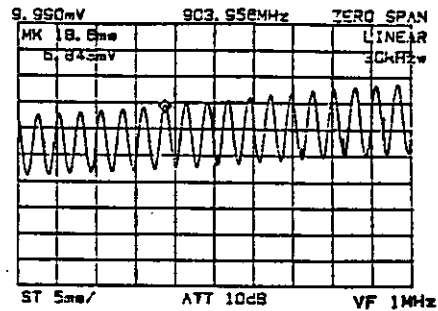

Figure 5-6 Reading the Difference from the Time Indication of the Adjacent Peak
- ⑬ Move the marker to the next peak and obtain the difference  $T(s)$  between the time indication of that marker and the time indication in step ⑫. In this example, it can be obtained as  $18.6 - 16.0 = 2.6 (ms)$  (Figure 5-6).